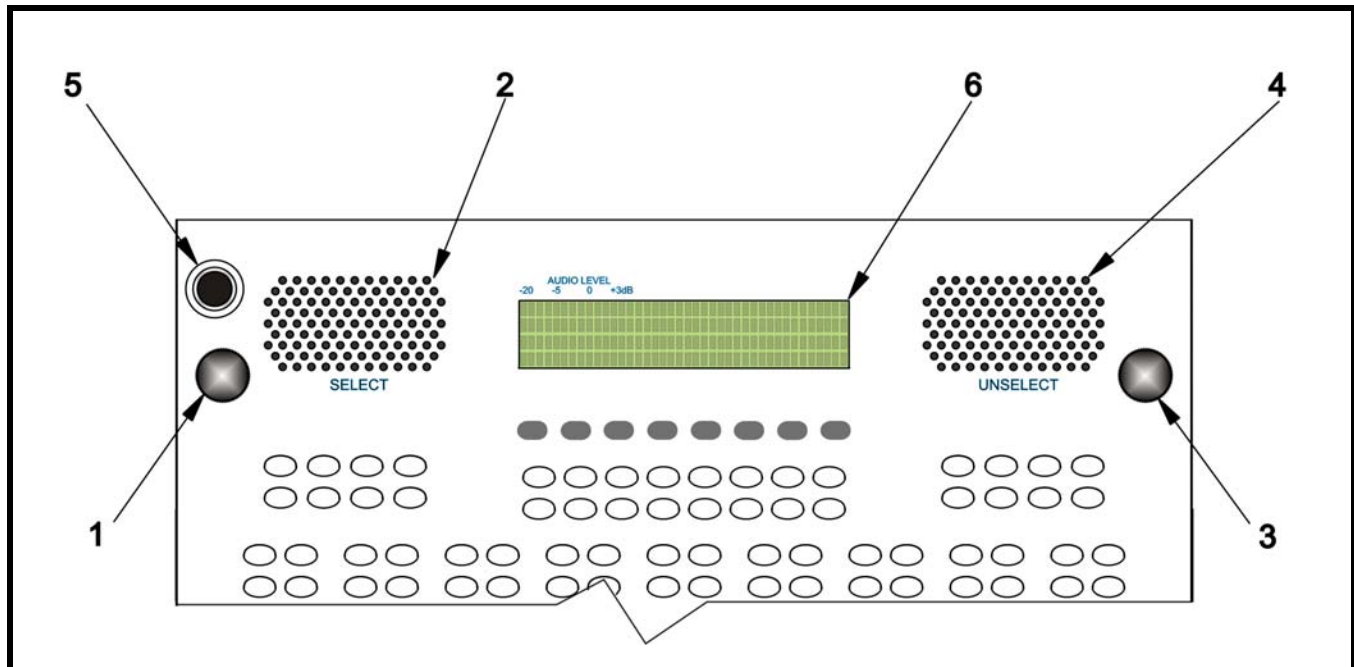
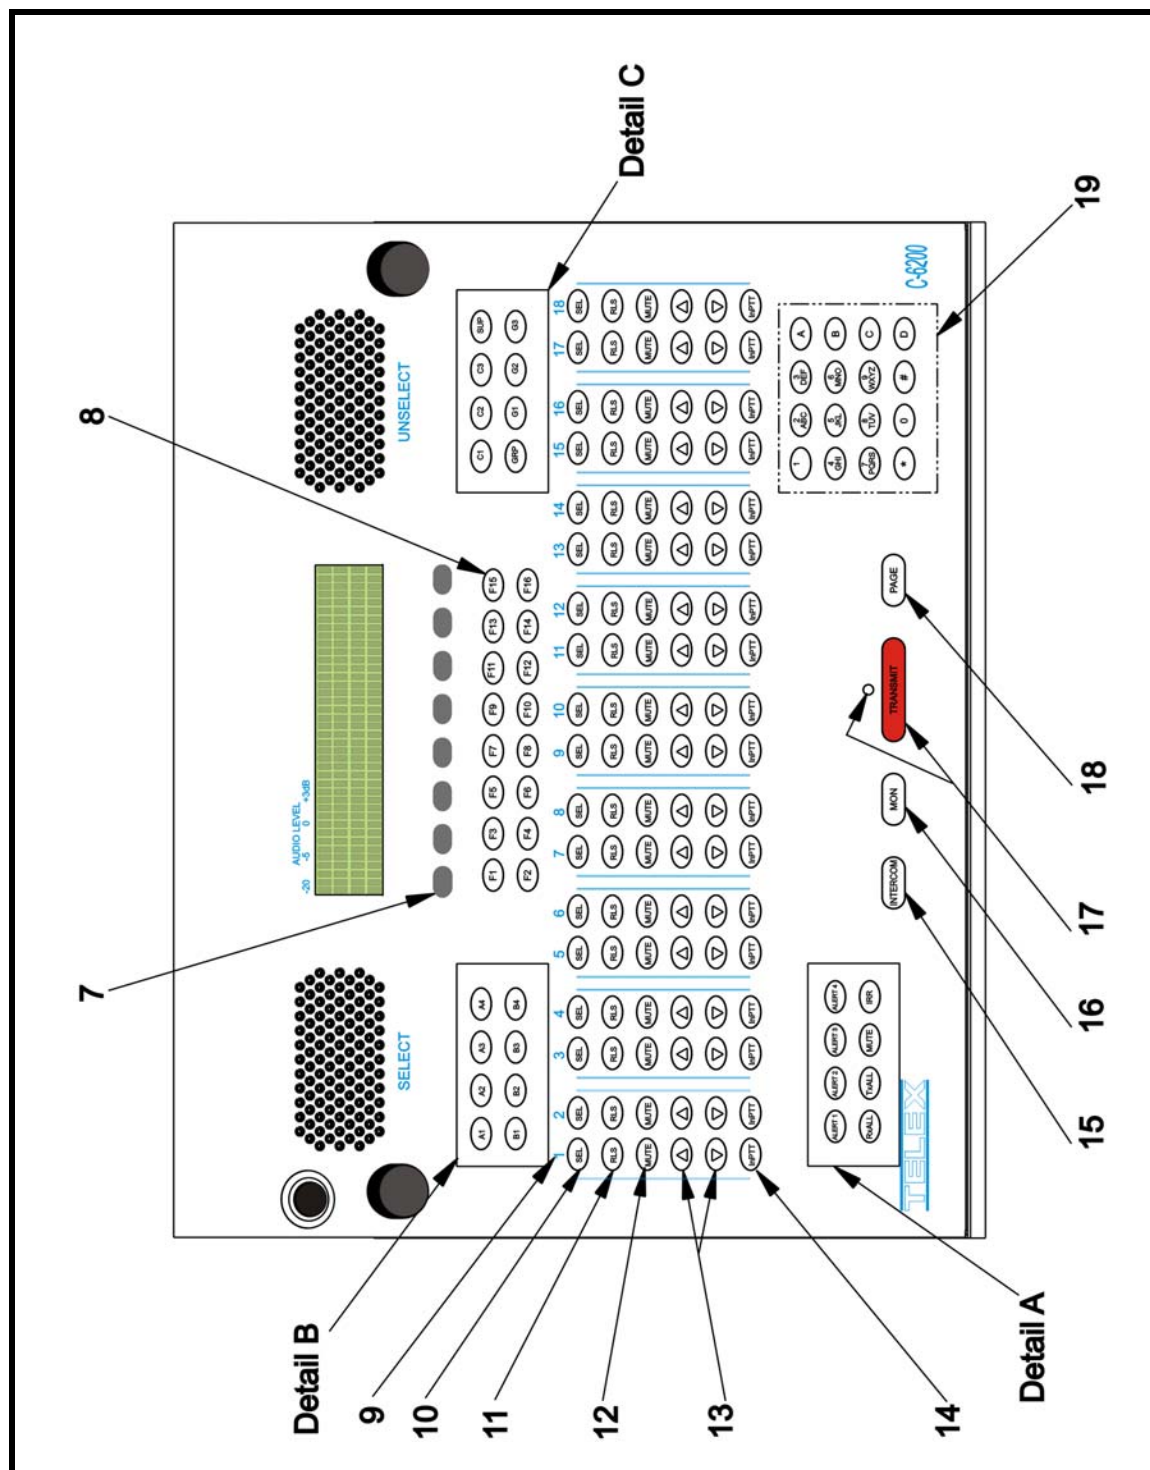

FIGURE 1. C-6200 Console Front Panel—Knobs, Speaker and Display
FIGURE 3. C-6200 Console Front Panel—Buttons
The **C-6200 Console Front Panel**, shown in Figure 1 and Figure 3, features the user interface, a gooseneck microphone jack, speakers, volume control, intercom and monitor functions, panel PTT with indicator, paging, per line selection, mute, and InPTT. There is a **DTMF** (Dual Tone Multi-Frequency) keypad, along with supervisory, scan, menu, and functions tone buttons. The eight (8) softkeys below the display are used to select menus and options.